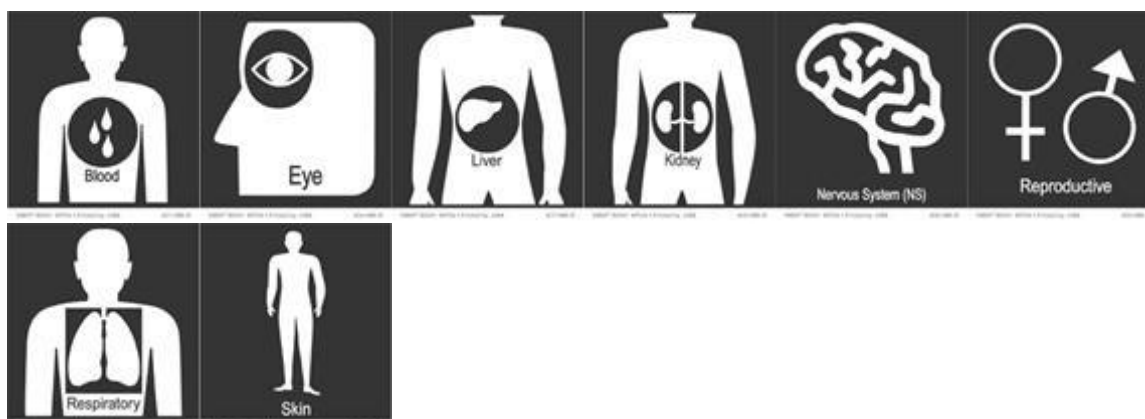
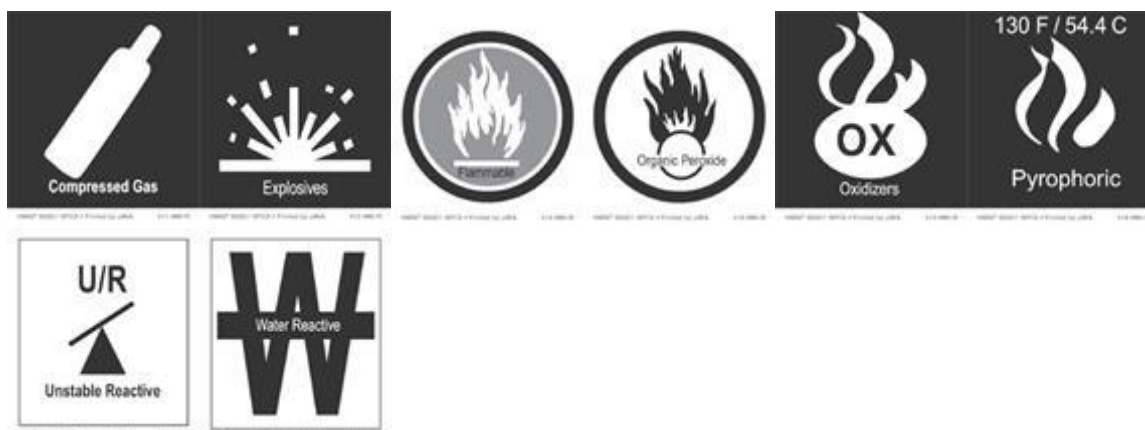

Figure 3 Target Organ icons used in HMIS III
Figure 4 Physical Hazard icons used in HMIS III
As with the NFPA system, the relative hazard of each category is identified by using a numerical rating that ranges from zero (0) indicating a minimal hazard, to four (4) indicating a severe hazard. Where applicable, the Target Organs (**Figure 3**) and Physical Hazards (**Figure 4**) will be identified by icons surrounding the label.